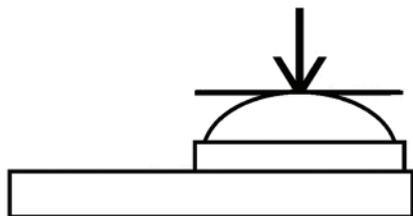

Figure 2
2. Remove the cap of the light sensor and place the light sensor at the spot where the meter can test the source of light. To obtain the best result, aim the light source at the top of the light sensor ball plane at a 0 degree angle. See Figure 2 for an example.